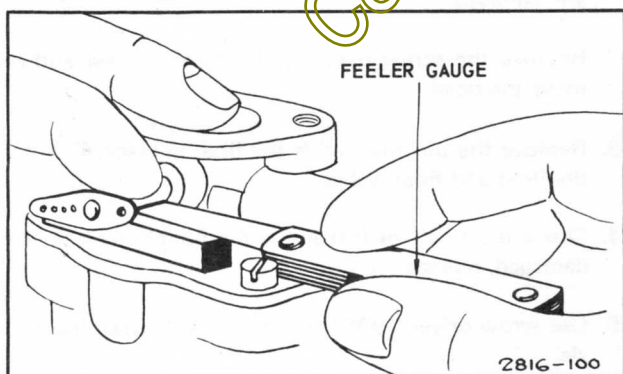

FIGURE 3-4
1. Put a short iron bar on the upper carburetor body as shown in figure 3-4.